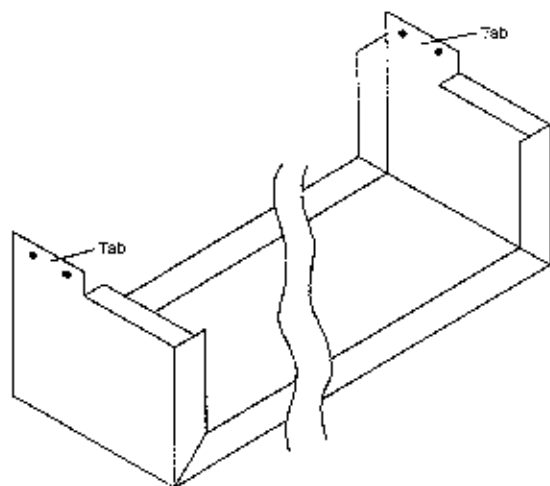

Figure 12. ME Sub-base
8. Install the sub-base if specified. The sub-base mounts against the wall and the two tabs fit outside the wall sleeve. The two tabs are fastened to the wall sleeve with two screws each. Self-tapping screws are provided (see Figure 12).